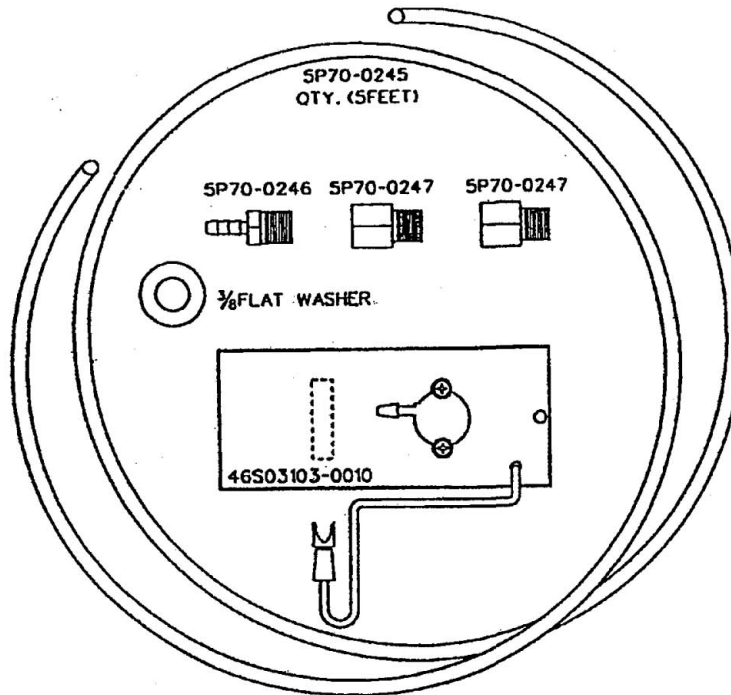

Figure 1. 3-15 PSI Transducer Kit
The following parts are included in the kit (see Figure 1):
4. Remove contents from kit package and verify completeness (see Figure 1).